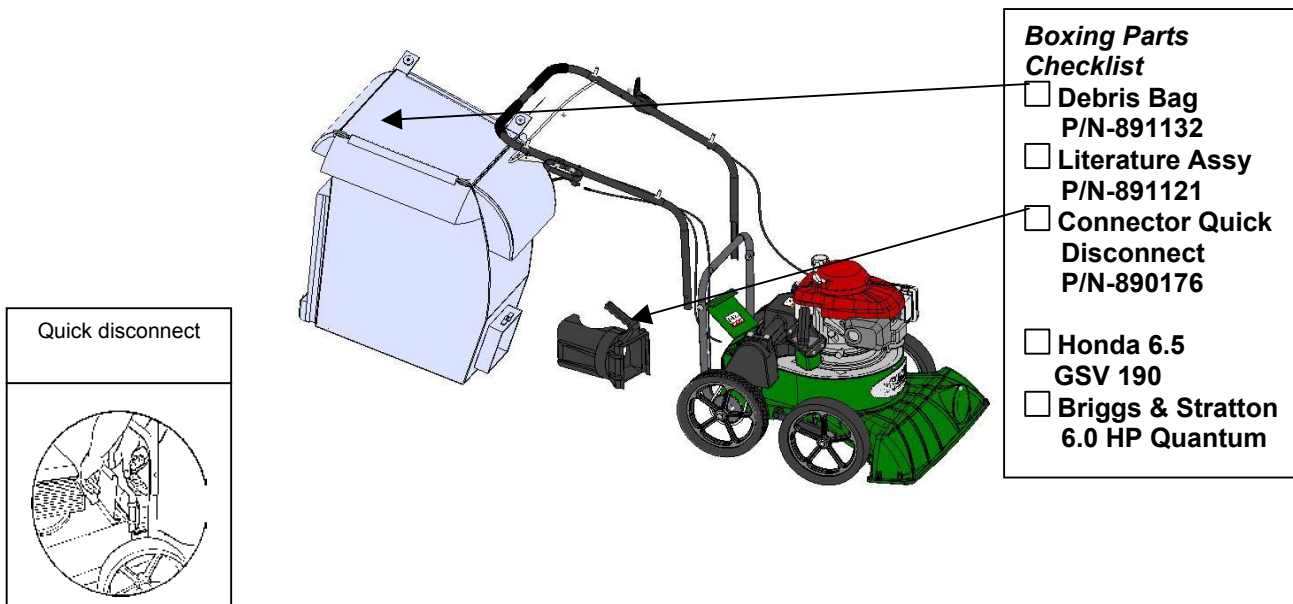

Fig. 2
1. **ASSEMBLE** Lift upper handle (item 11), remove items 49, 50, & 51 from lower handle (item 10). Attach and secure upper handle as shown using same hardware.
2. **UNFOLD** the debris bag (item 21) and fasten bag neck to bag quick disconnect (item 12). Attach firmly to housing exhaust (item 1) see fig. 2.
3. **ATTACH** bag to four posts (item 13), preassembled to upper handle.